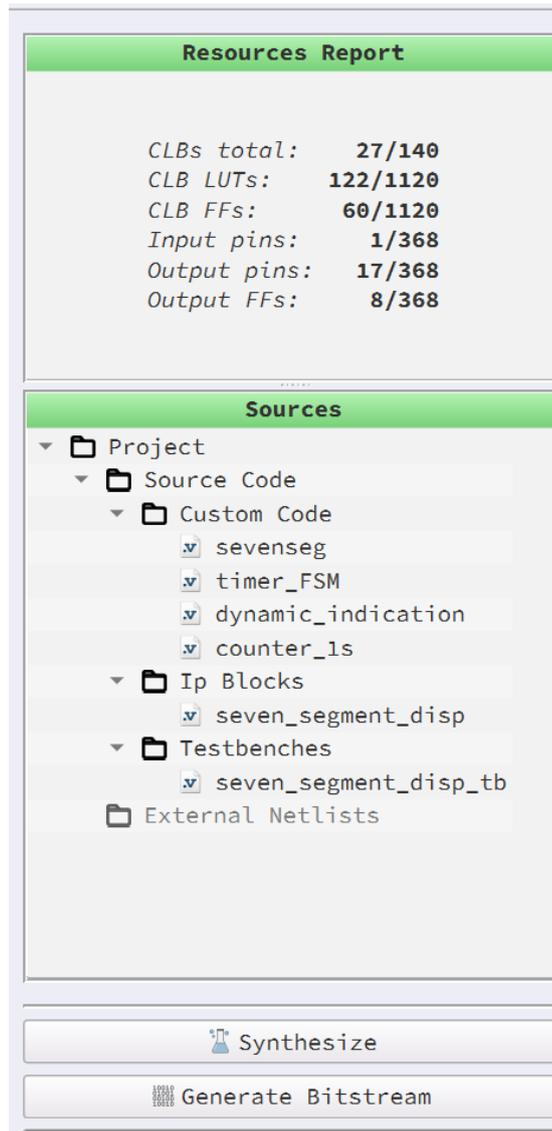

Figure 4: File Structure and Resources Used
4. Open the FPGA editor and review the Verilog code. There is a main code with the module name `seven_seg_counter`, which is the top module defining the whole design. There are 3 sub-modules designed in this example along with an IP Block. All these sub-modules are integrated together to form the top module as function as intended (see Figure 4 for structure).